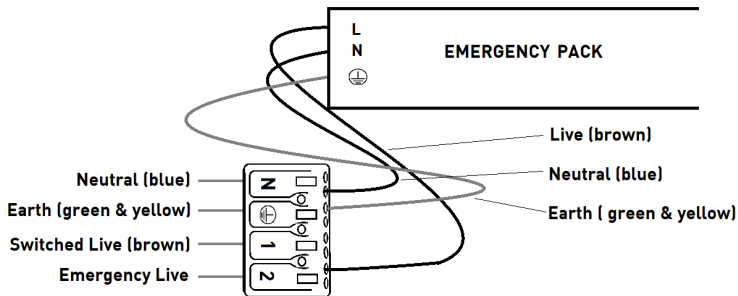

Fig. 1
- Using the three single-core wires provided, connect the emergency pack to the reverse side of the terminal block; use the terminal L2 for the emergency live (see Fig. 1)